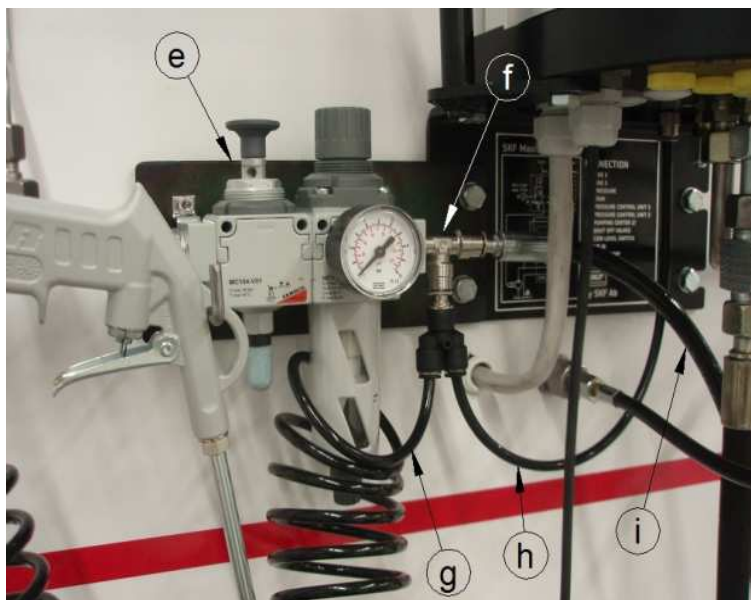

Figure 22 Pressure air connections
- 4 Connect the pressure air connector (f) delivered with the installation kit to the outlet of the pressure air regulator (e), see Figure 22.
- 5 Connect the following components to the pressure air connector: pressure air gun to connection (g); pressure air supply pipe of the SKF Maxilube hydraulic part to connection (h); and the pressure air supply hose of the EPB pump to connection (i), see Figure 22.